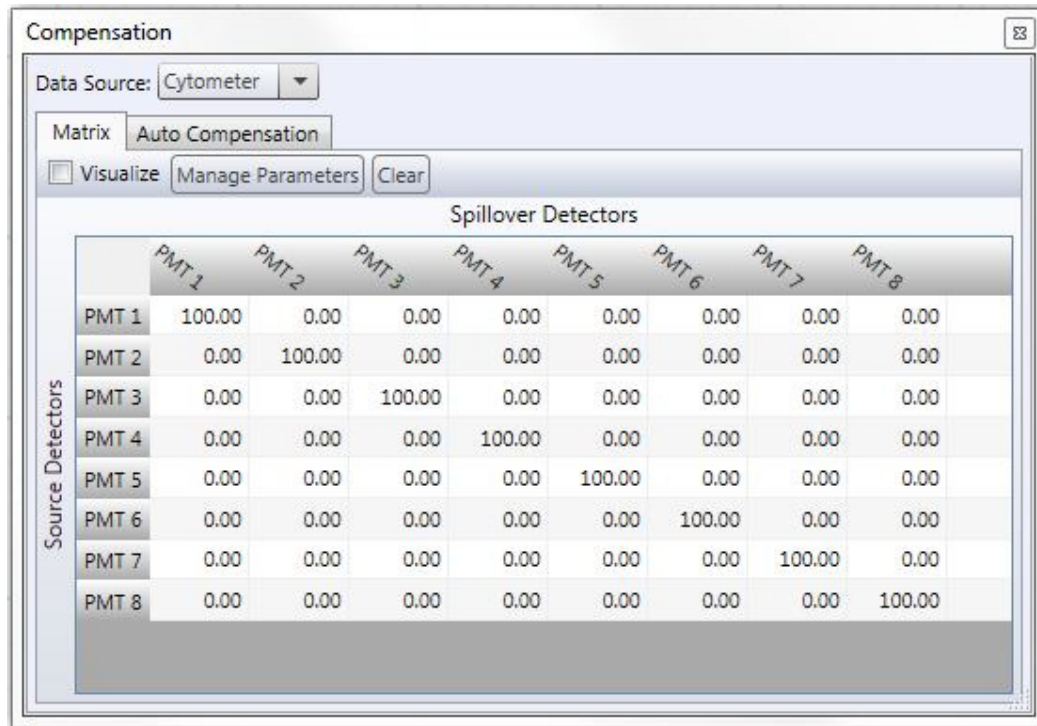

Figure 11. The compensation matrix
- 5.8.1 To start building a compensation matrix, run unstained and single stained samples adjusting PMT voltages as needed. Record a minimum of five thousand events for each of these after voltages are established. Open the Compensation matrix and under Manage Parameters, select the channels to be compensated (Figure 11)
Set all histograms for the single stains with digital detectors (DSPs). In the recorded Unstained file, draw a gate on a FSC/SSC plot around the desired cell population. Load each single stain recording and draw interval gates on all the individual single stain histograms. Make sure that the single stain interval gates are children of the Unstained gate drawn first. This done in the Gate Hierarchy pane of the Software. Under the Auto Compensation tab of the Compensation pane (Figure 11), enter the gates for positive and negative in each column. Click calculate and check the compensation matrix. Check the Visualize box and the compensation matrix becomes active.